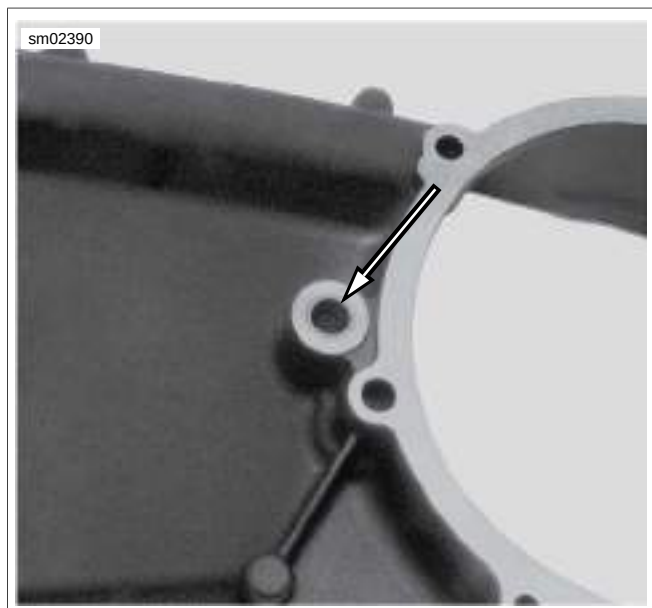

Figure 5-25. Shifter Shaft Bushing
1. See Figure 5-25. Press out old bushing from clutch side of housing. Inspect the bushing bore to verify that it is clean and smooth.